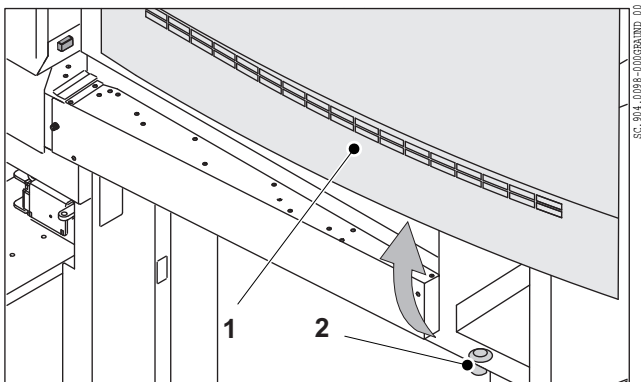
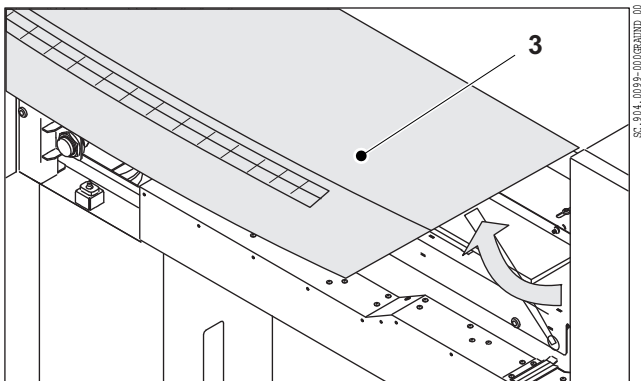

Fig. 64 Guard "delivery D.S."
Fig. 65 Guard "delivery O.S."
3. Slacken the safety screw (Fig. 64/2) and remove the guard "delivery D.S." (Fig. 64/1). Open the guard "delivery O.S." (Fig. 65/3).